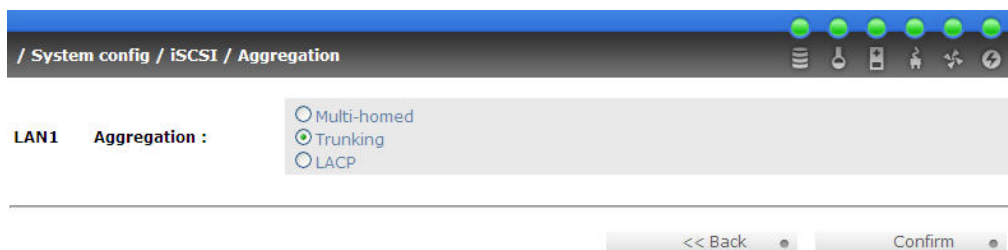

Figure E.8
10. Select “LACP”. If Trunking is needed, please see Figure E.8.